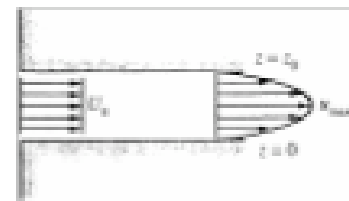

Fig. P3.17
3.17 Incompressible steady flow in the inlet between parallel plates in Fig. P3.17 is uniform, $u = U_o = 8 \text{ cm/s}$, while downstream the flow develops into the parabolic laminar profile $u = az(z_o - z)$, where a is a constant. If $z_o = 4 \text{ cm}$ and the fluid is SAE 30 oil at 20°C , what is the value of u_{\max} in cm/s ?